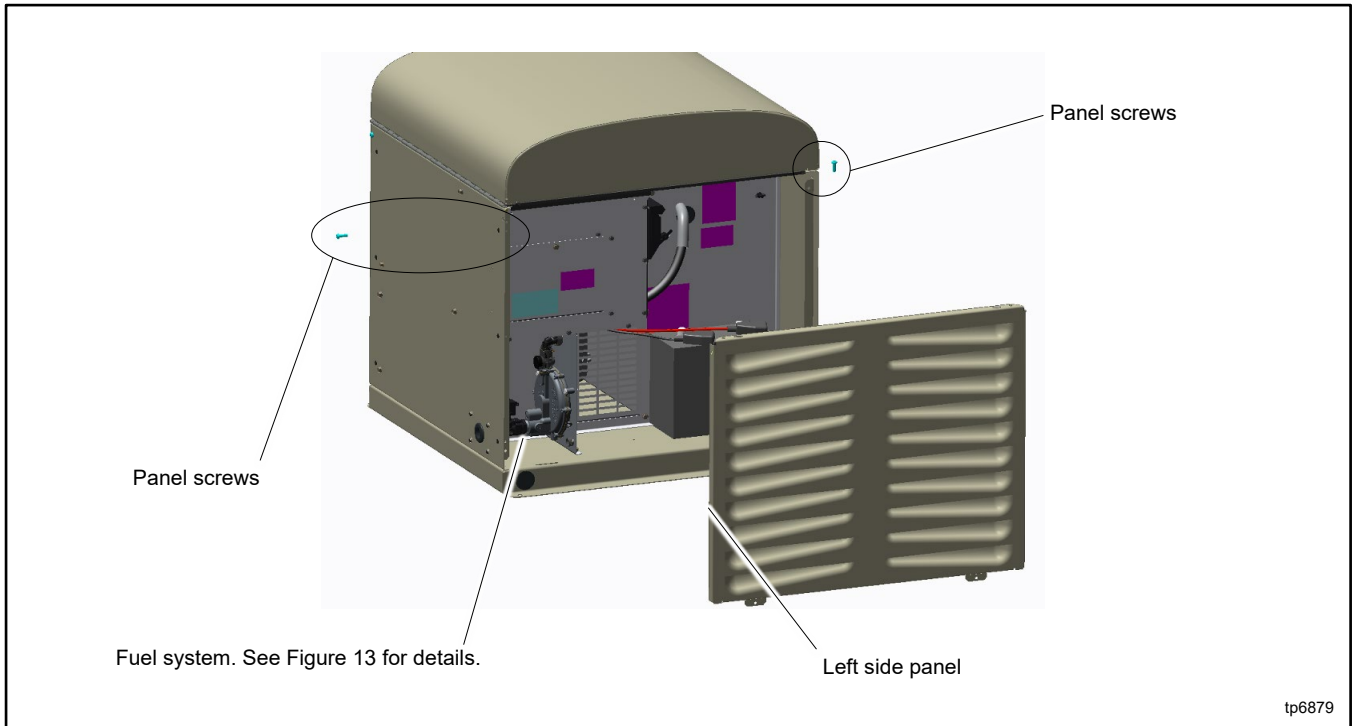

Figure 14 Remove Left Panel
5. Remove panel screws and remove the left side louvered panel. Figure 14.